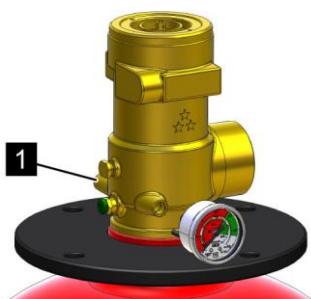

Fig. 184: Pressure gauge connection
2. ► Remove the blind plug on the unused pressure gauge connection (Fig. 184/1) of the valve.